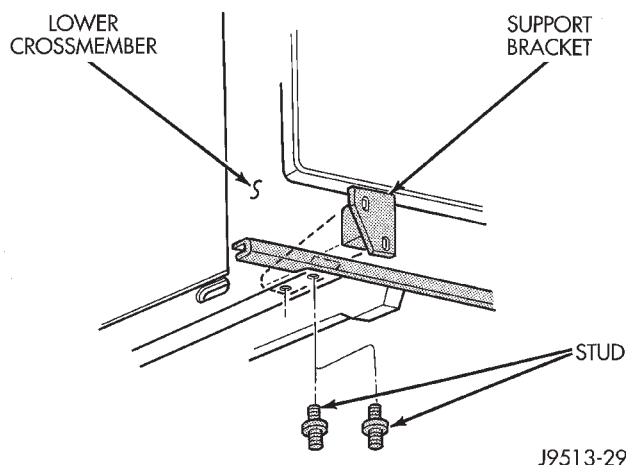
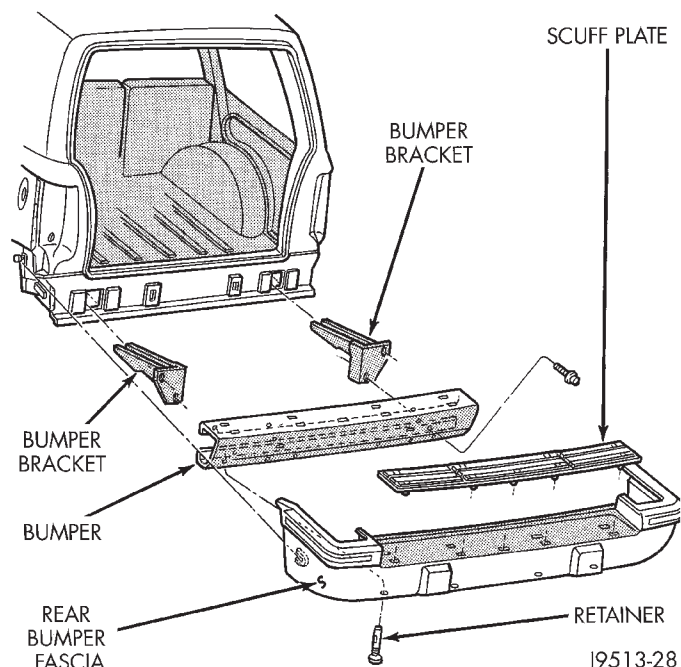

Fig. 4 Bumper Support Bracket
Fig. 5 Bumper Removal
- (1) Remove trailer hitch, if equipped.
- (2) Raise and support the rear of the vehicle.
- (3) Remove the upper scuff pad from fascia.
- (4) Remove the lower retainers from fascia (Fig. 5).
- (5) Remove the push-in retainers located at the rear wheel well on each side.
- (6) Remove the fascia from the bumper.
- (3) Support the bumper.
- (4) Remove push-in retainers at each side rear wheel well.
- (5) Remove the bolts that attach the bumper support brackets to the rear rails (Fig. 4).
- (6) Slide the bumper beam/fascia off of the retainer pegs on the side of the lower quarter panel.
- (7) Remove the beam/fascia from the vehicle.
- (8) Remove the bumper support brackets from the bumper (Fig. 5).
- (9) Remove the upper scuff pad from the bumper fascia by squeezing fasteners and pushing through slots.
- (10) Remove the lower retainers from the bumper fascia.
- (11) Remove the bumper fascia from the bumper.